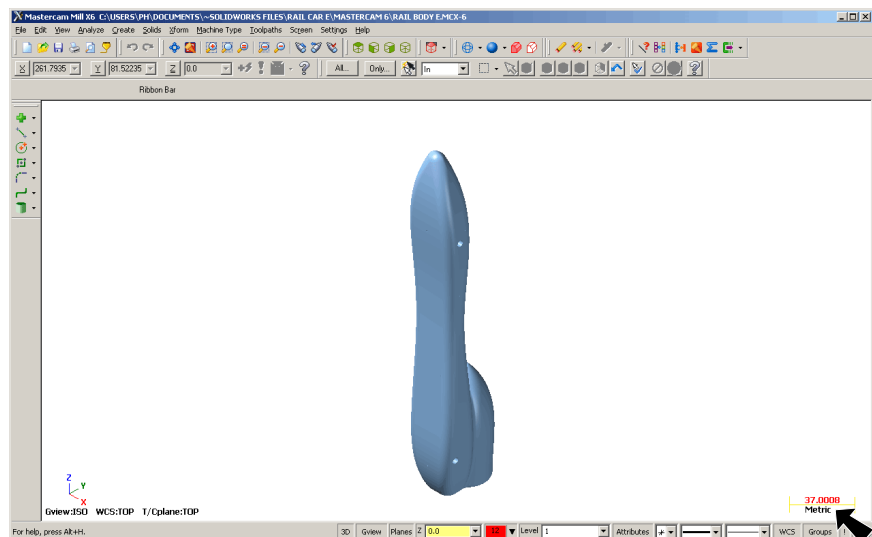

Fig. 3
Step 1. In the bottom right corner of the display, confirm units are **Metric**, **Fig. 3**.